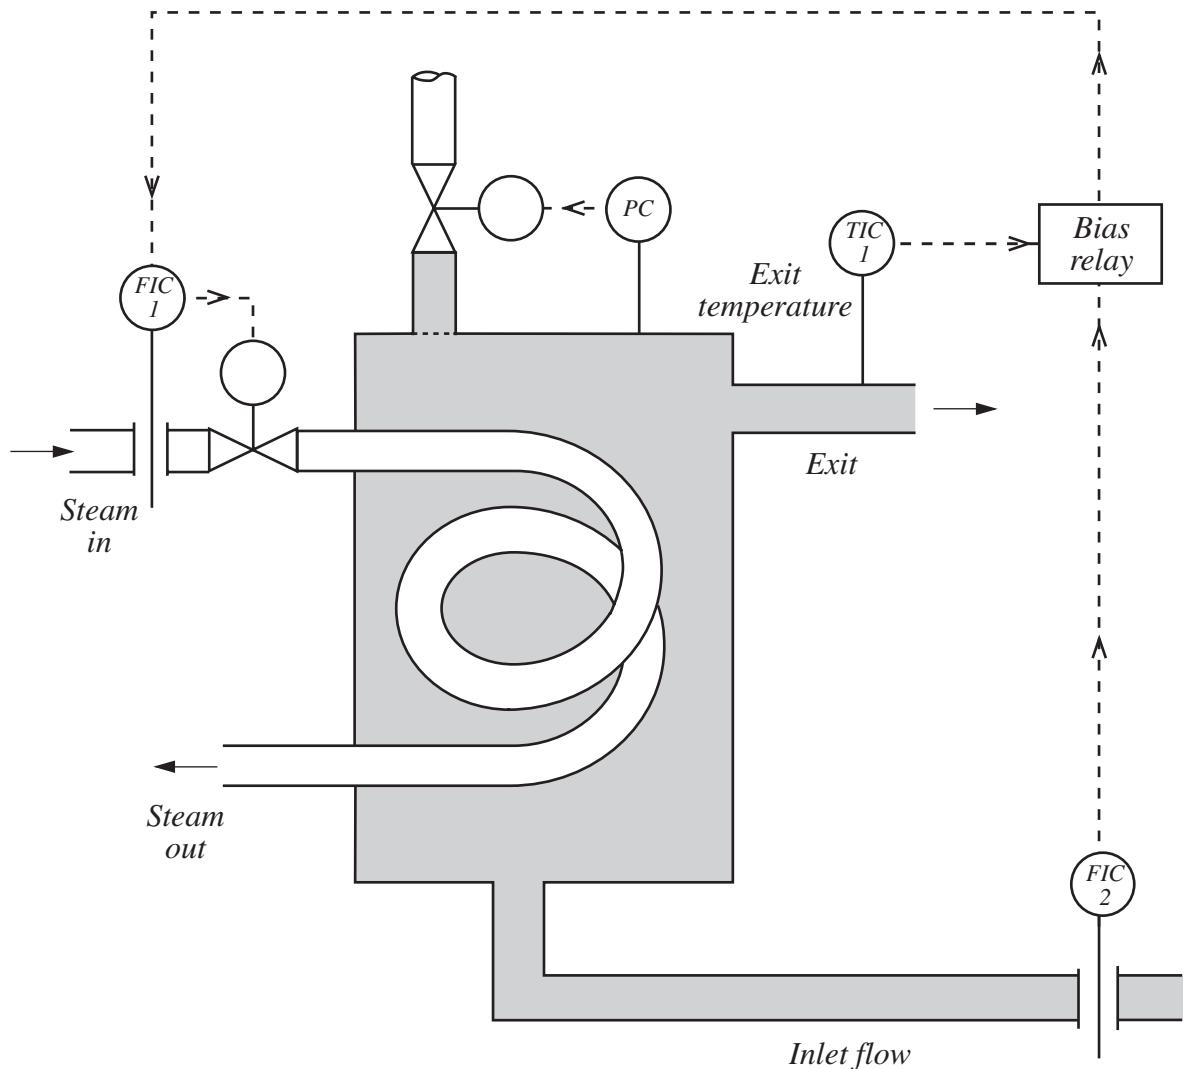

FIG. 11
3. The final modification to the system is as shown in FIGURE 11.